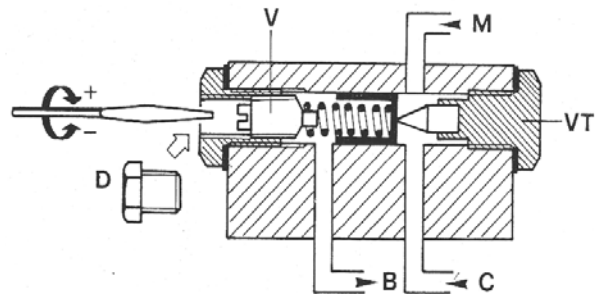

Fig. 25
- 10 To perform the regulation, remove the cap **D** and loosen the screw **V** (see Fig. 25), by means of a screwdriver (see Fig. 25). The regulating screw **V** acts on the return pressure from the nozzle. Set the pressure to the minimum value of 5 bar. Read the values on the pressure gauge placed on the regulator's coupling **M**. Once the regulation is accomplished, replace cap **D**.